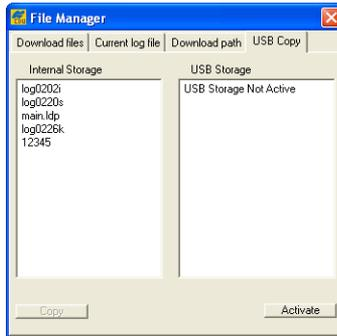

Figure 4-6. USB Copy
6. In the **File Manager** dialog box, click the **USB Copy** tab (Figure 4-6).